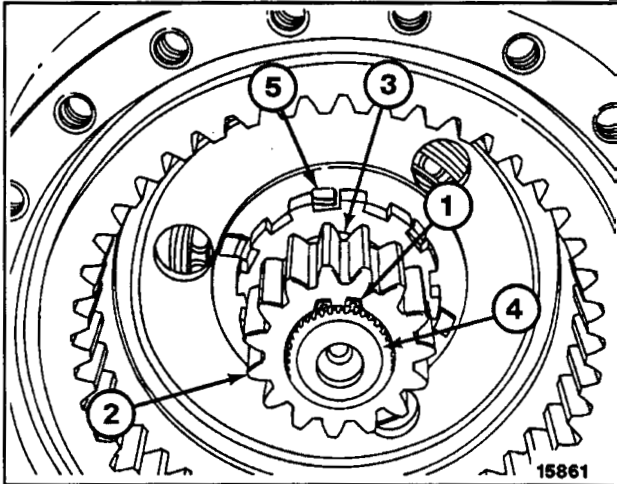

Figure 71
32. Bend tabs on lock washer (5, Figure 71) to prevent loosening of hub retaining nut.
33. Install thrust washer (3, Figure 71), sun gear (2) and retaining ring (1) on axle shaft (4).